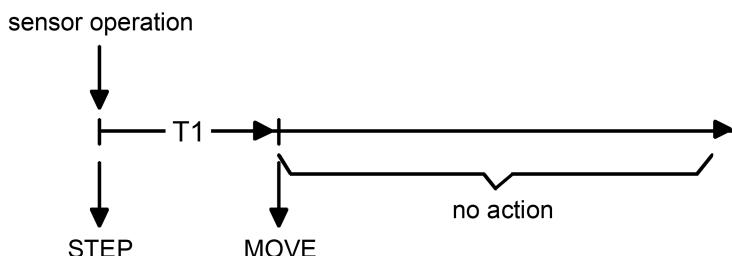

Figure 29: Telegram concept when a sensor surface of the channel function is touched
- Immediately on pressing a sensor surface the device transmits a short time telegram to the bus (figure 29), whereupon a running drive is stopped and the "time between short and long time operation" T1 is started internally. If the pressed sensor element is released again within T1, the device transmits no further telegram. This short time serves the purpose of stopping a continuous movement.